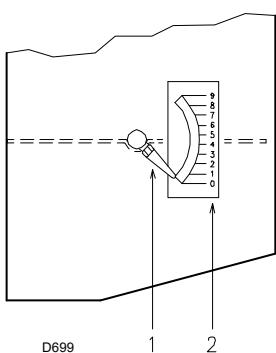
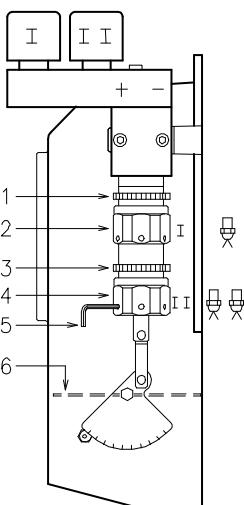

Fig. 23
Fig. 24
Keep the burner operating at 1st stage by setting the switch 2 (Fig. 22) to the 1st stage position. Opening of the air gate valve 6) (Fig. 24) must be adjusted in proportion to the selected nozzle: the index 1) (Fig. 23) must be aligned with the notch 2) (Fig. 23) specified in table (Tab. E) This adjustment is achieved by turning the hex element 2) (Fig. 24):
2.3 notch (Fig. 23) aligned with index 1).
When the adjustment is terminated lock the hex element 2) (Fig. 24) with the ring nut 1).
N° = Notch 2)(Fig. 23)
Set switch 2) (Fig. 22 page 21) to the 2nd stage position and adjust the air gate valve 6)(Fig. 24) by turning the hex element 4)(Fig. 24), after having loosened the ring nut 3)(Fig. 24).
in order to facilitate adjustment of hex elements 2) and 4)(Fig. 24), use a 3 mm Allen key 5) (Fig. 24).